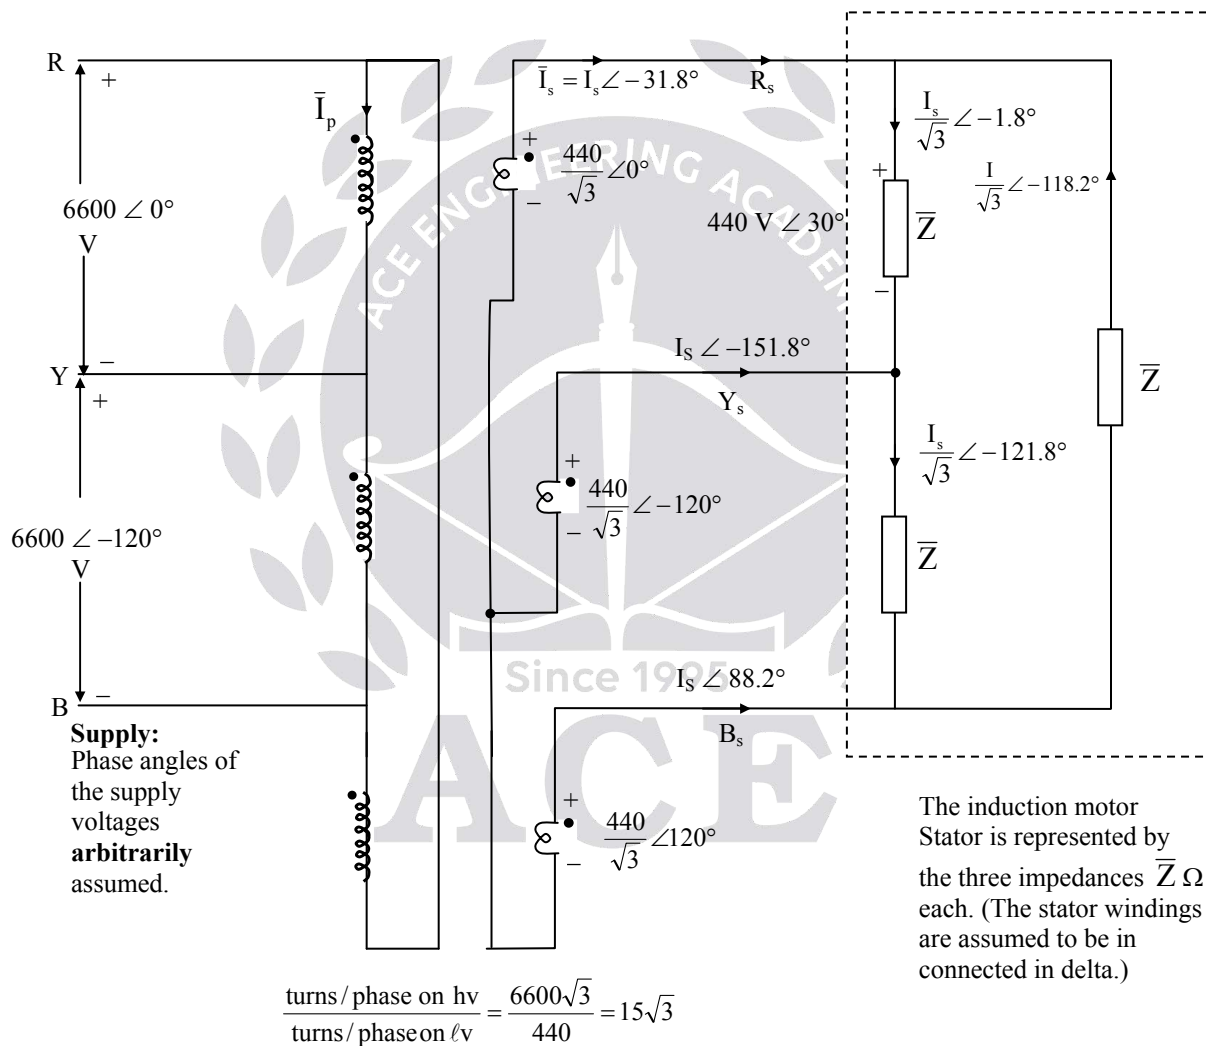

Fig.1
2. The problem asks for currents. Since the currents are ac, their phase angles should also form part of the answer. For clarity, a complete 3-phase circuit is shown in fig.1.
With the directions shown for  $\bar{I}_p$  &  $\bar{I}_s$  in fig.1,  $\bar{I}_p$  &  $\bar{I}_s$  must be in phase.
$$\bar{I}_s (\text{from fig.1}) = 64 \angle -31.8^\circ \text{ A}$$